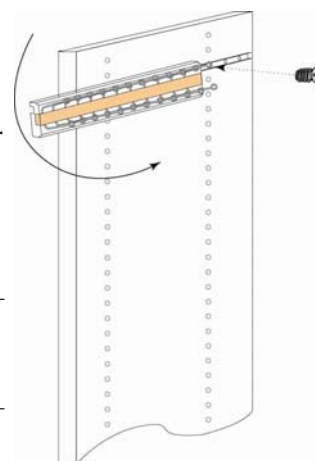

Fig. 3
3. Lower the rack into position, parallel to the floor, so that the slide lines up with the corresponding hole on the rear of the partition. (See Fig. 3.)